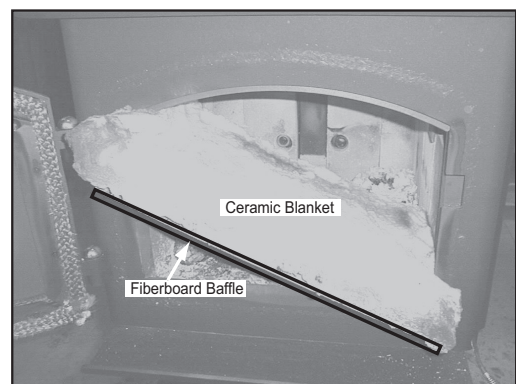

FIGURE 24B - Baffle & Ceramic Blanket
4. Slide fiber board and ceramic blanket forward to front of stove, tilt down and slide to the door. Tilt to one side and slide both through door at the same time. Keep them tilted as you lift it out of the door. **See Figure 24B.**